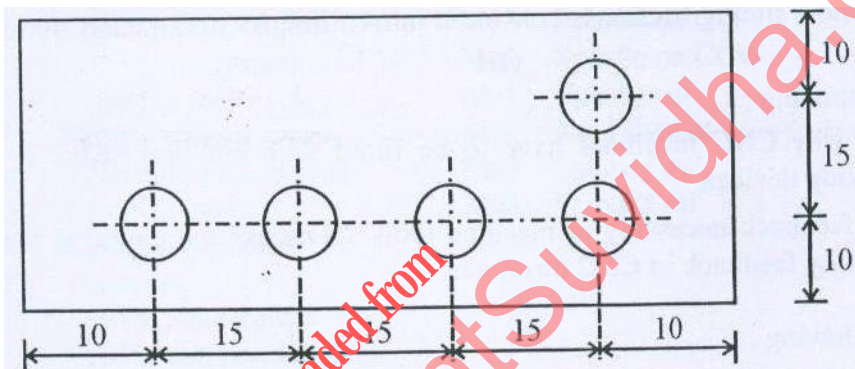

Figure 2
- (b) Explain with the help of part programming , the concept of subroutine and do loops for programming the component shown in Figure.2 **07**